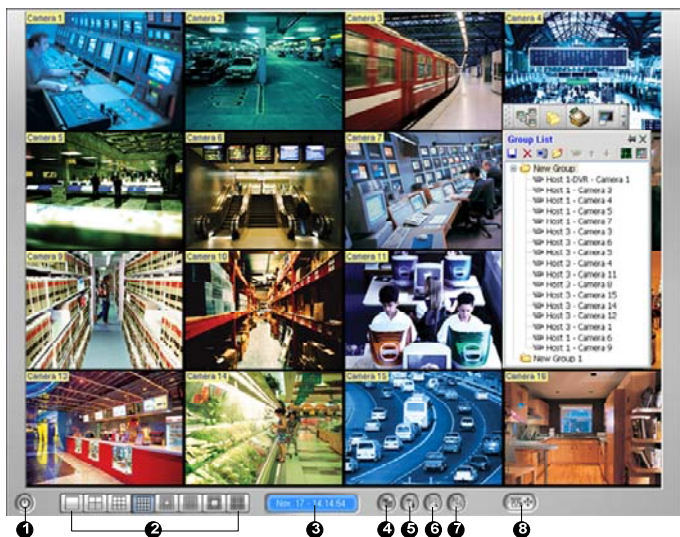

Figure 4-15
On the Matrix window, click the **Configure** button (No. 5, Figure 4-15).
- To open the POS Live View window, click the **ViewLog** button (No.6, Figure 4-15) and select **POS Live View**.
- To instantly play back the events of all channels, click the **ViewLog** button (No.6, Figure 4-15), select **Instant Play**, and select the time length.
1. Open the Matrix window, click the **Configure** button (No. 5, Figure 4-15), and select **QView**. This dialog box appears.